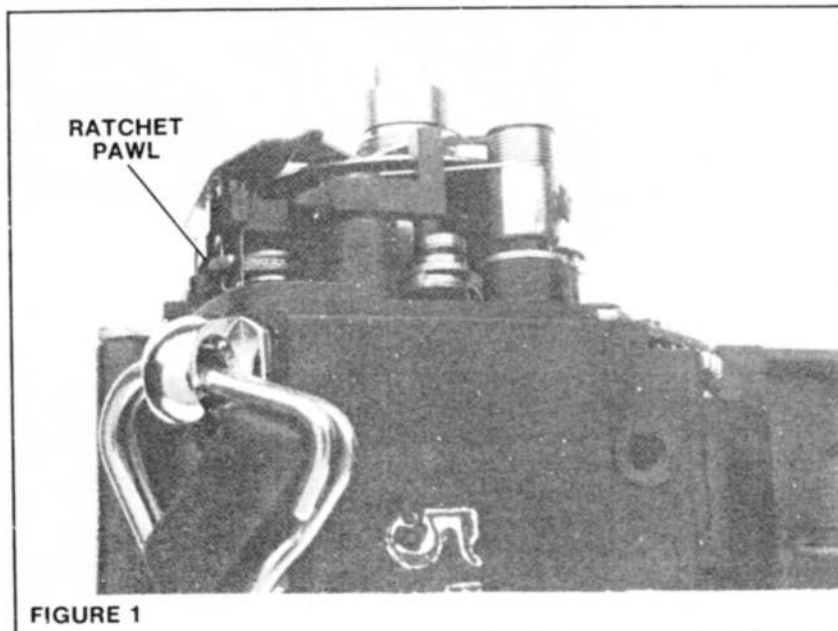

FIGURE 1
1. The ratchet pawl that engages the wind ratchet now mounts to the base plate rather than to the underside of the counter assembly, Fig. 1. If you don't get the ratchet during the wind stroke, check to see if the post for the pawl has come loose from the base plate. The normal symptom is that the camera comes in jammed—the mirror is up, but the shutter is already in the released position. You can restake the post after removing the base plate.